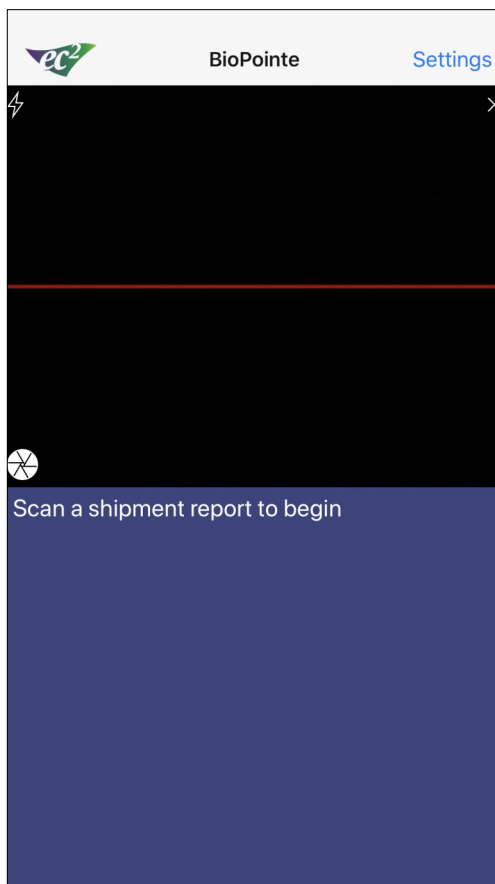

Fig 3
- b. Click on the  icon on the camera screen to toggle between auto and manual focus. Fig 3